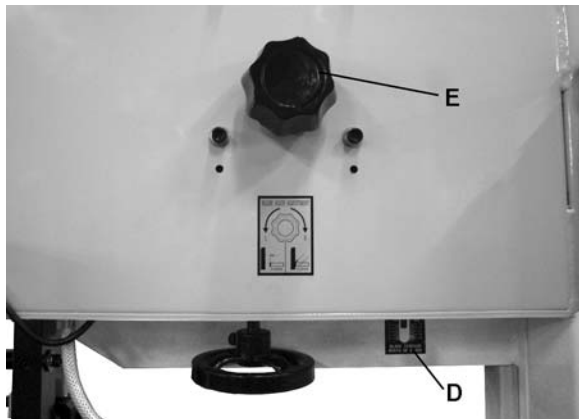

Figure 9
4. Use blade tension indicator (D, Figure 9) as reference only. Blade should be tensioned using the finger pressure method.
1. Turn blade tracking knob (E, Figure 9) clockwise to track blade toward front of blade wheel.